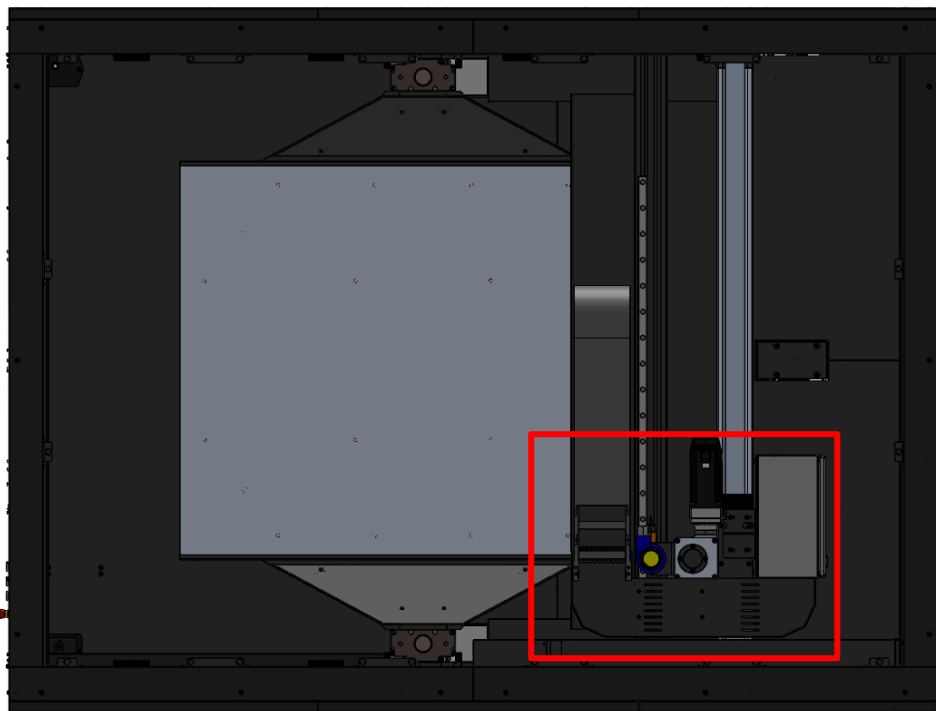

Figure 28 (“Start” position from top view)
- When the printed part is completed, the extruder should return to the “start” position, on the machine’s left-hand side (fig 28).